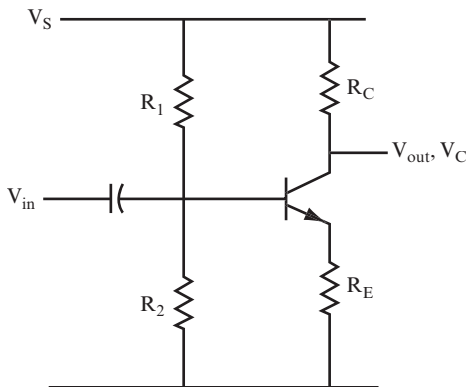

FIGURE 12.11
49. Using the amplifier circuit shown in Figure 12.11, find the values of R_1 , R_2 , and R_E that can provide the amplifier with a voltage gain of 10. Use $V_S = 28 \text{ volts}$, $R_C = 1 \text{ k}\Omega$, and $\beta = 100$. _____
50. Again, using the circuit shown in Figure 12.11, find the values of R_1 , R_2 , and R_E that can provide the amplifier a voltage gain of 20. Use $V_S = 10 \text{ volts}$, $R_C = 2.2 \text{ k}\Omega$, and $\beta = 50$. _____
51. Using the circuit shown in Figure 12.11, how would you modify the amplifier in question 50 to obtain a maximum gain? Assume that the lowest frequency it has to pass is 50 Hz. _____